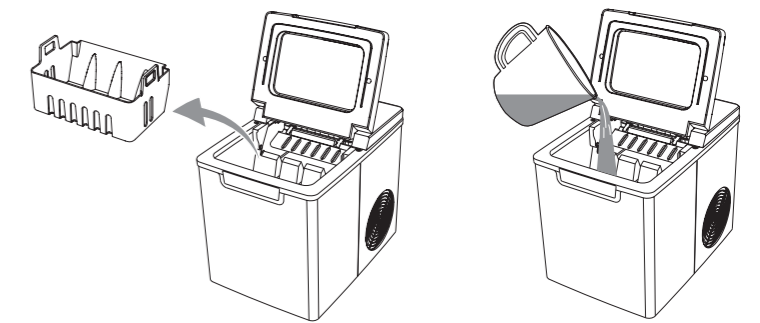

Fig. 5
2. Open the Top Lid and take out the Ice Basket. Pour water into the Water Tank up to the "MAX" Water Level Mark (see Fig. 5).